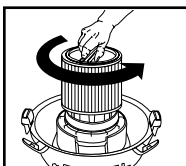

FIGURE 17
24. To remove the filter for cleaning, again hold the tank cover and turn the filter retainer counter-clockwise to loosen and remove. **FIGURE 17.**